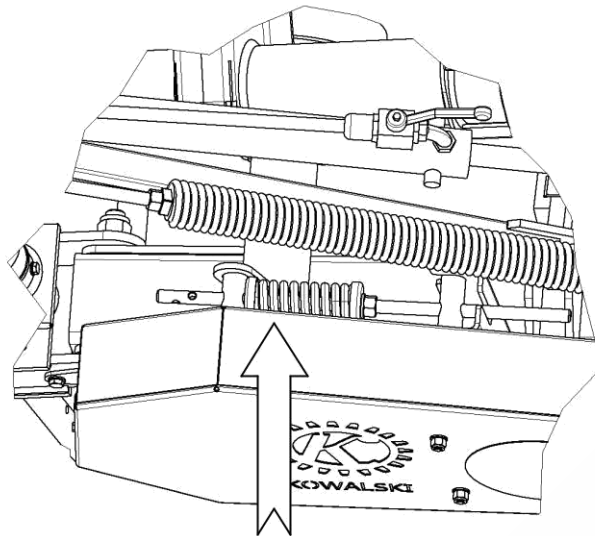

Fig. 17 Tensioner of v-belts
- set the disc in position allowing easy access to the screw that secures the blade (Fig. 17 A),
- insert the key (delivered with the machine) between holder and plate and press down so that a gap is created that allows removal of the blade (Fig. 17 B),
- insert a new blade into the space between the disc and holder (or remove worn or damaged blade) (Fig. 17 C),
- remove the key , check that the blade rotates freely (Fig. 17 D) ,
For longer periods of storage it is recommended to reduce belt tension. Change of V-belts tensions is made using the adjusting screw (Fig. 17)